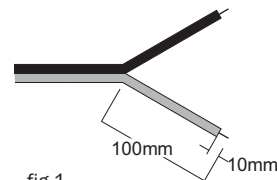

fig.1.
3. Using a wire stripper, remove about 10mm of insulation from both ends of each conductor, and then twist the strands of each conductor (fig.1).